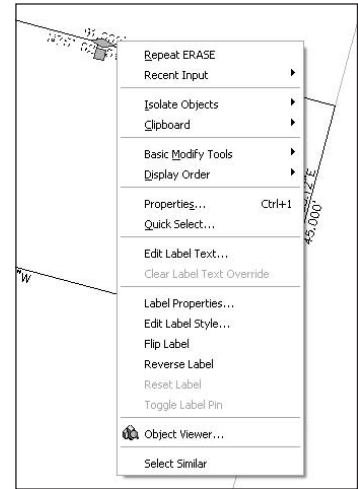

Figure 3.11
1. Zoom in on any line label. Select the label and right-click. A context-specific shortcut menu appears (Figure 3.11).